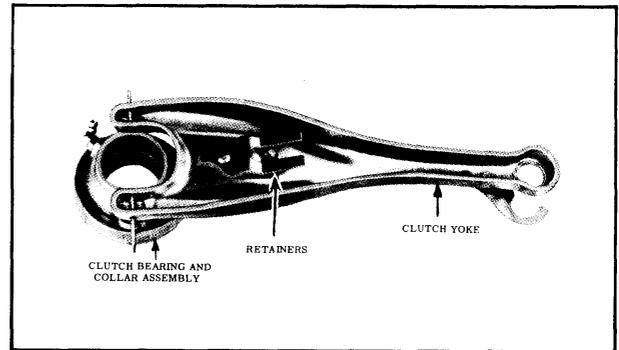

Fig. 10-9 Clutch Yolk Assembly
5. Remove yoke. (See Fig. 10-9)